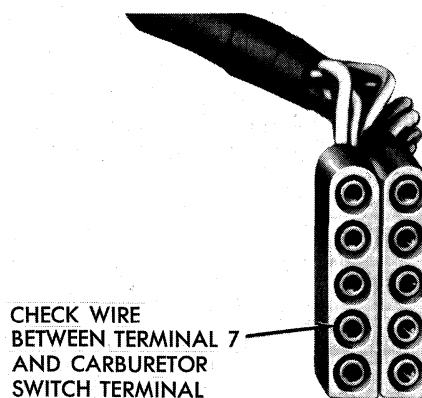

Fig. 24—Connector test (Vacuum transducer test)
(3) Remove insulator that was installed at carb switch and timing should return to basic setting. If timing does not return make sure curb idle adjustment screw is touching carb switch. Then turn engine off and check the wire between terminal 7 (Fig. 24) of connector at bottom of computer and carb switch terminal for opens, shorts or poor connections. If check